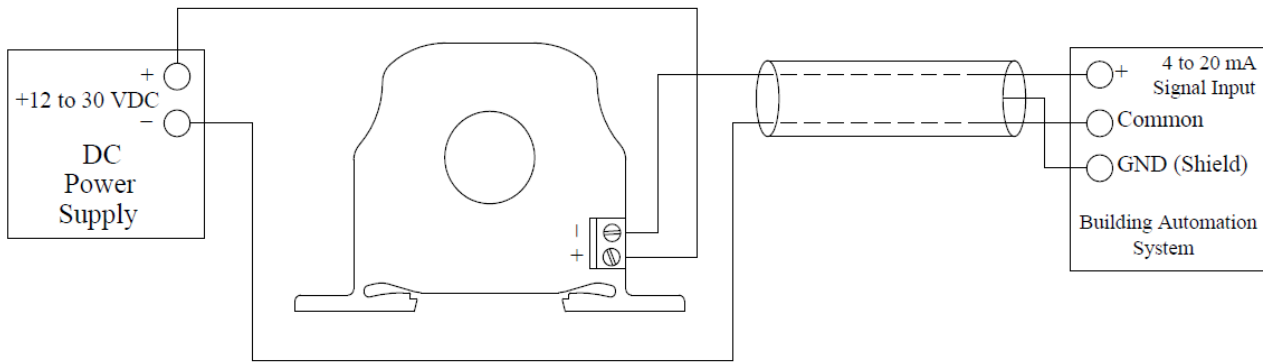

Figure 14. Connection of 4-20mA Current Transmitter (Sensor)
Step 10. Install the 4-20mA current transmitter to sense the amperage at the motor terminal box, and connect to the analog input at the MicroVission panel, see Figure 14.
Step 1. Connecting 120VAC power: take a look at the wires on the right hand side of panel, run through DIN rail to breaker CB1. This corresponds to the power distribution hookup on SHEET 10 of the drawing set, see Figure 14.